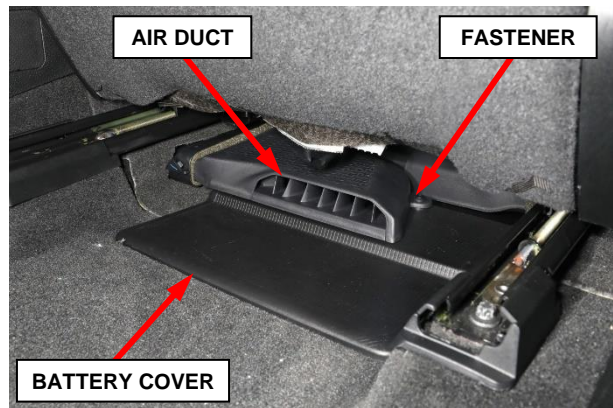

Figure 45 – Air Duct and Battery Cover
3. Under the front seats, remove the air duct fastener then remove the air duct (Figure 45).
4. Under the front seats, remove the battery compartment cover (Figure 45).